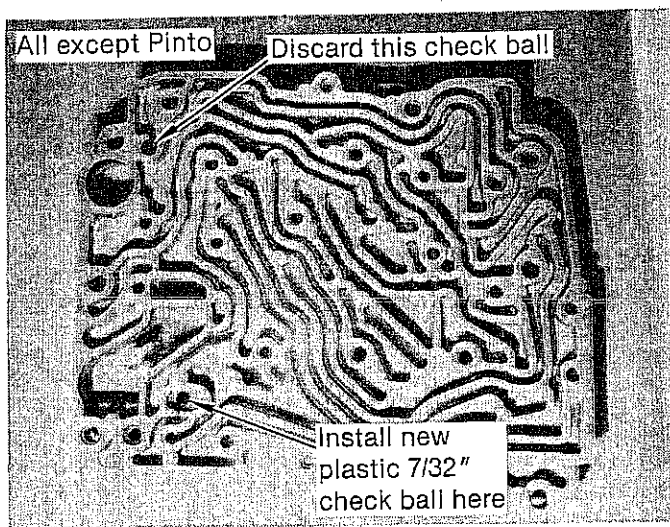

FIGURE 41
STEP 12. Lay the transfer plate in front of you with the passages up. Install new plastic 7/32" diameter ball supplied with kit in position shown in Figure 41 or 41A.